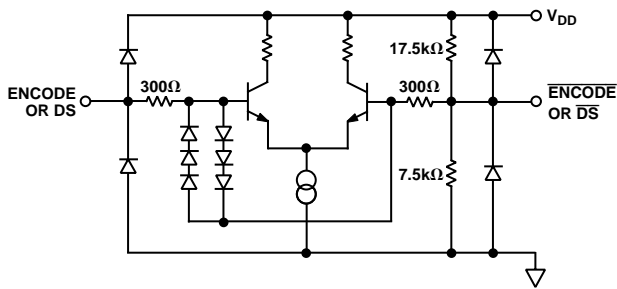

Figure 5. Equivalent ENCODE and Data Select Input Circuit
3tv and tPD are measured from the threshold crossing of the ENCODE input to valid TTL levels of the digital outputs. The output ac load during test is 5 pF (Refer to equivalent circuits Figures 5 and 6).
ENCODE and Data Select (DS) can be driven differentially or single-ended. For single-ended operation, the complement inputs ( $\overline{\text{ENCODE}}$ , DS) are internally biased to  $V_{\text{DD}}/3$  (~1.5 V) by a high impedance on-chip resistor divider (Figure 5), but they may be externally driven to establish an alternate threshold if desired. A 0.1  $\mu\text{F}$  decoupling capacitor to ground is sufficient to maintain a threshold appropriate for TTL or CMOS logic.
Note the 6-diode clock input protection circuitry in Figure 5. This limits the differential input voltage to  $\sim \pm 2.1$  V. When the diodes turn on, current is limited by the  $300 \Omega$  series resistor. Exceeding 2.1 V across the differential inputs will have no impact on the performance of the converter, but be aware of the clock signal distortion that may be produced by the nonlinear impedance at the converter.